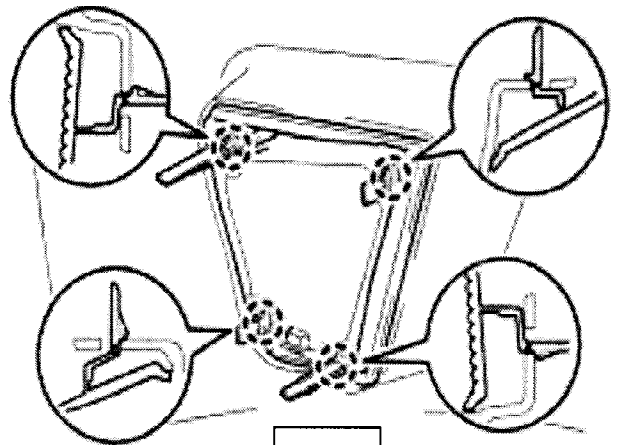

Fig 4
6. Disengage the 4 spring clips and remove factory bezel from fascia. Repeat procedure for driver side. See Fig 4 & 5